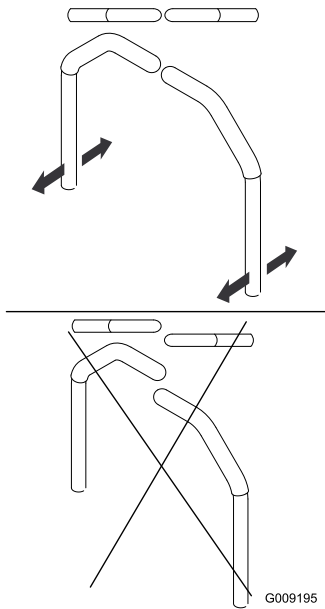

Figure 82
4. Align the levers in the front-to-rear position by bringing the levers together to the NEUTRAL position, and slide them until they are aligned, then tighten the bolts (Figure 82).